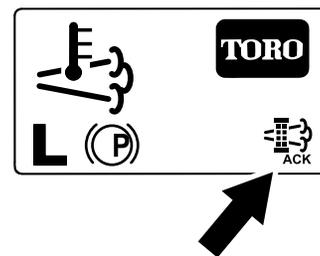

Figure 61
8. The InfoCenter displays the home screen and the regeneration acknowledge icon (Figure 61) appears in the lower right corner of the screen as the regeneration processes.